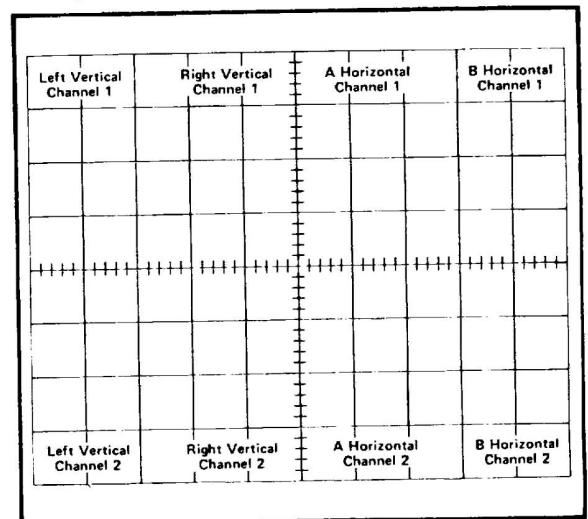
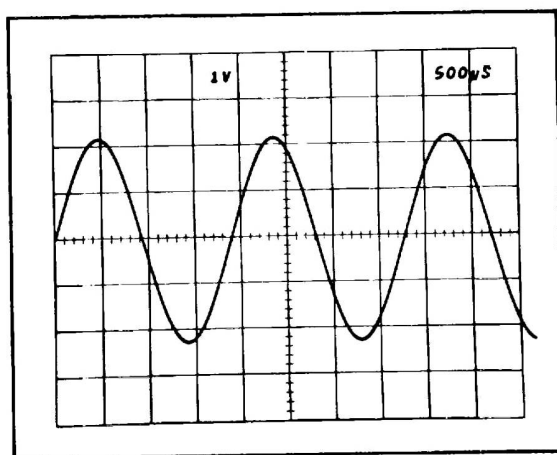

Fig. 3-37. Location of readout words on the CRT identifying the originating plug-in and channel (one complete frame shown, simulated readout).
Fig. 3-39. Typical readout display where only channel 1 of the Right Vertical and B Horizontal units is displayed.
**Frame-A** frame is a display of all words for a given operating mode and plug-in combination. Up to eight words can be displayed in one frame. Fig. 3-37 shows one complete frame (simulated readout) and the position at which each of the eight words is displayed.
**Display Format.** Up to eight words of readout information can be displayed on the R7704 CRT. The position of each word is fixed and is directly related to the plug-in unit from which it originated. Fig. 3-37 shows the area of the graticule where the readout from each plug-in unit is displayed. Notice that channel 1 of each plug-in unit is displayed within the top division of the CRT and channel 2 is displayed directly below within the bottom division. Fig. 3-39 shows a typical display where only channel 1 of the Right Vertical and B Horizontal units is selected for display.
The Character Generator stage produces the characters which are displayed on the CRT. Any of the 50 characters shown on the Character Selection Matrix of Fig. 3-37 can be addressed by proper selection of the column and row current. Only one character is addressable in any one timeslot; a space can be added into the displayed word by the Decimal Point Logic and Character Position Counter stage when encoded by the plug-in. The latter stage counts how many characters have been generated and produces an output current to step the display one character position to the right for each character. In addition, the character position is advanced once during each of time-slots 1, 2, and 3 whether a character is generated during these time-slots or not. This action fixes the starting point of the standard format display such that the first digit of the scaling factor always starts at the same point within each word regardless of the information encoded in time-slot 2 (normal/invert) or time-slot 3 (cal/uncal) which precedes this digit. Also, by encoding row 10 and column 0 during any time-slot, a blank-space can be added to the display. Decimal points can be added to the display at any time by addressing row 7 and columns 3 through 7 (see Character Selection Matrix for location of these decimal points). The Decimal Point Logic and Character Position Counter stage is reset after each word by the Word Trigger pulse.